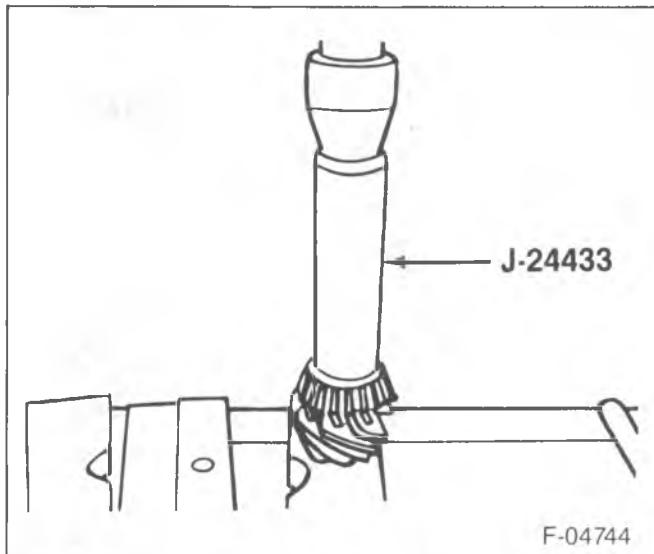

Figure 10—Installing the Inner Pinion Bearing
- 1. Pinion rear bearing (13) onto the pinion.
- Press the bearing onto the pinion using J 24433 (figure 10).